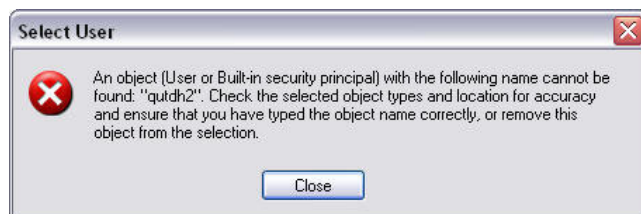

FIG. 61
- j. If the computer cannot find your user name the error message shown in FIG. 61 displays. Check the select object types and location for accuracy and try entering your user name again. If you still receive the error message, contact your IT person for assistance.